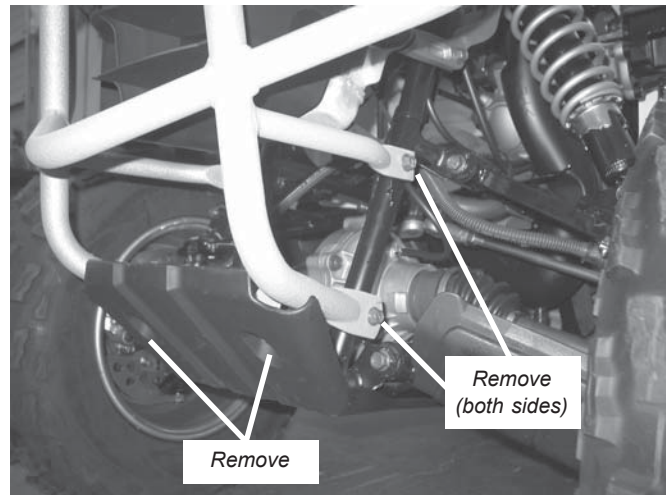

Figure 2 Remove the Four 10mm Bolts
2. Remove the four side 10mm bolts and two bottom 8mm bolts securing the front skid plate, figure 2. Save the fasteners as they will be used later to reinstall the front bumper and skid plate.